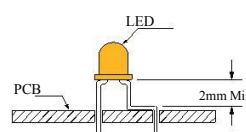

Fig. 5
1. Maintain a minimum of 2mm clearance between the base of the LED lens and the first lead bend. (Fig. 5 & 6) LED 的灯体下方和第一次弯脚处之间要保留至少 2MM 的空间。